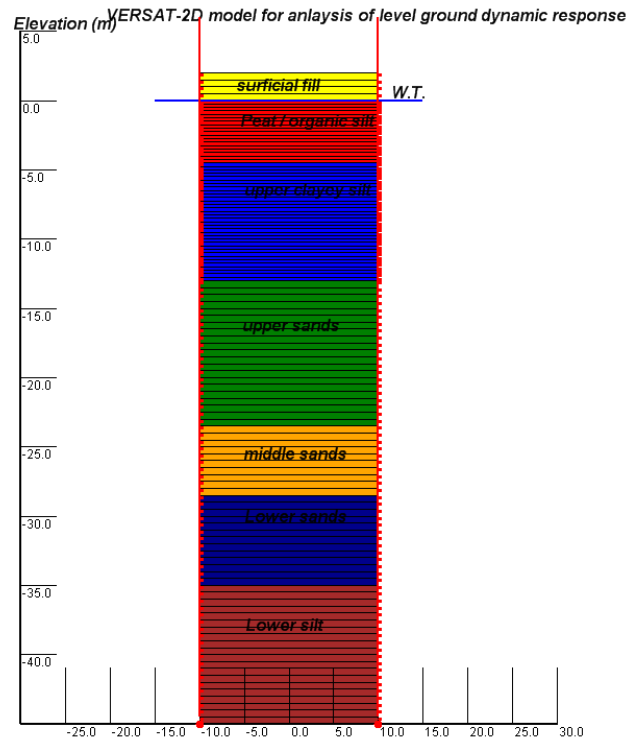

Figure 4.5 An example 1D soil column showing soil zones, a water table and boundary conditions for a static analysis
1. Determine static stresses: Static stresses are computed from a static analysis of the one dimensional (1D) soil column. An example 1D soil column is shown in Figure 4.5.